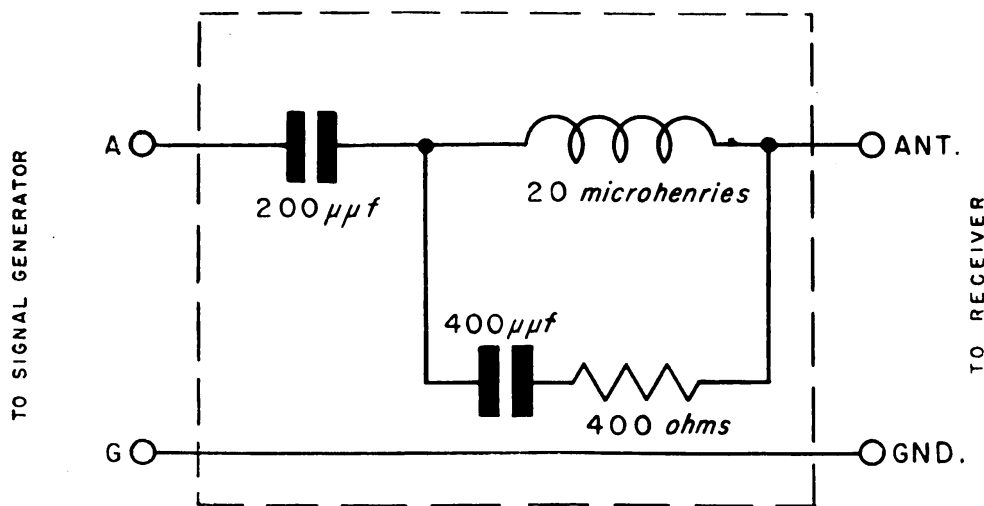
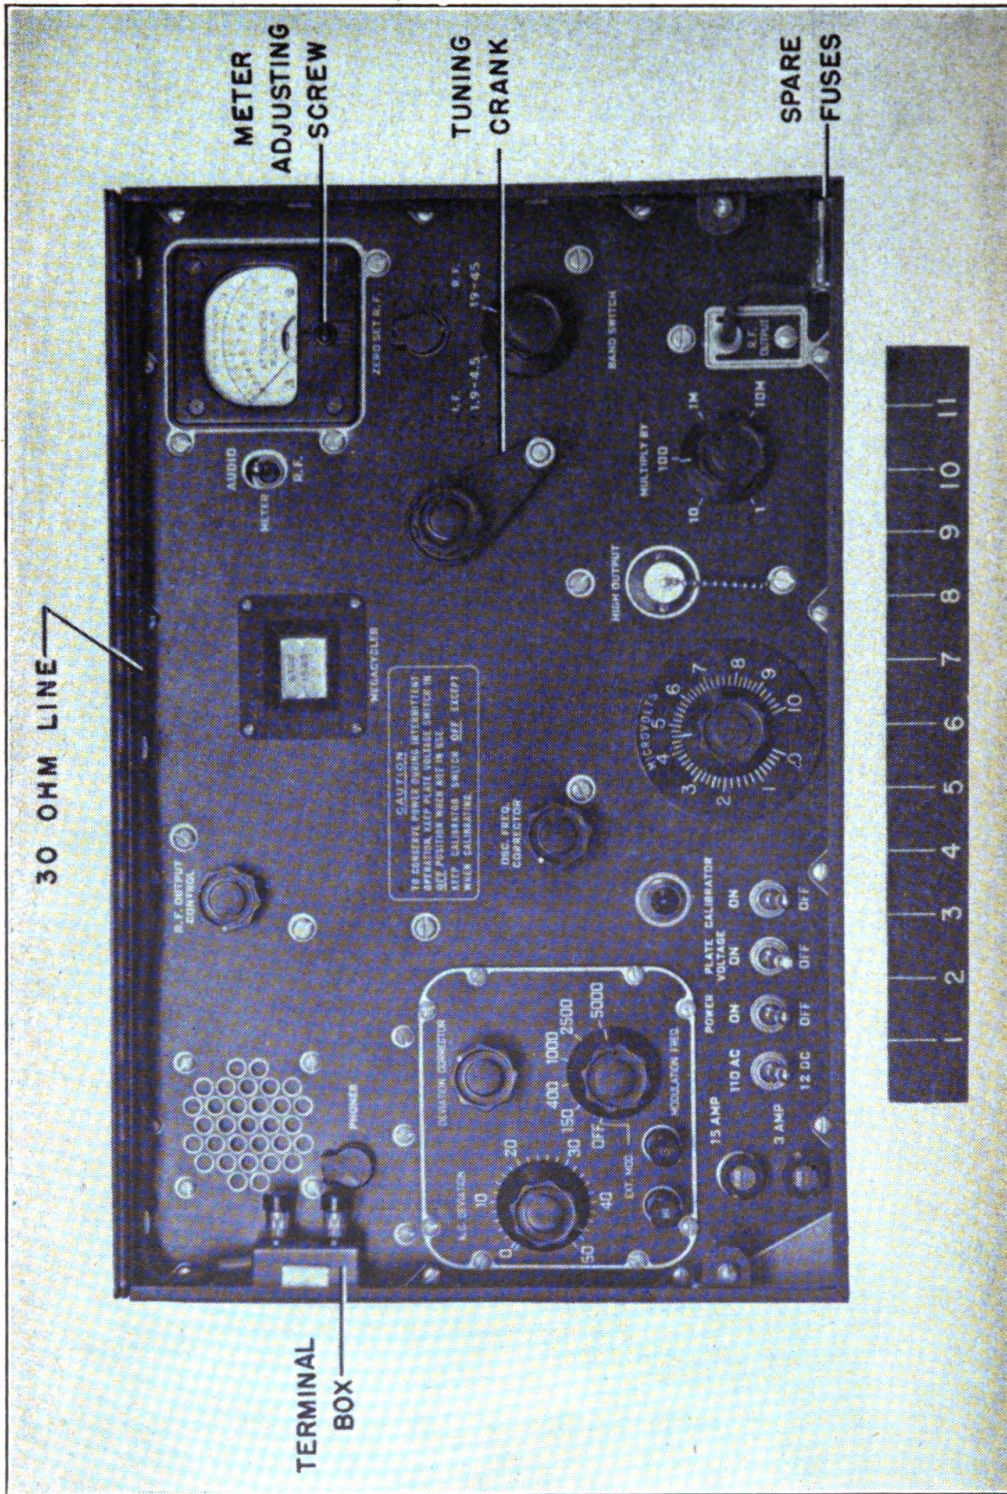

Figure 3—RMA Standard Phantom Antenna
Figure 4—Signal Generator I-208, front view
(1) See that the POWER switch is at OFF. Throw power selector switch to correspond with available power source (12 DC or 115 AC).
(2) Check the meter reading. The pointer must be at 0. If it does not read 0, very carefully adjust the meter adjusting screw (figure 4) so that the meter needle is at zero.
(3) After you have installed the signal generator as outlined in paragraph 5a, b, or c, and made the adjustments outlined in paragraphs 6a(1) and 6a(2), throw the POWER, PLATE VOLTAGE, and CALIBRATOR switches to ON and allow the signal generator to warm up for about 15 minutes.
(4) While waiting for the signal generator to warm up, determine from the radio receiver alignment procedure the type of coupling (phantom antenna) required between the signal generator and the radio receiver. A network as shown in figure 3 may be used if a specific phantom antenna is not recommended in the receiver alignment procedure.
(5) Remove the 30-ohm line from the clips around the edge of the front panel of the signal generator (figure 4).
(6) Make connections between the terminals of the 30-ohm line and the radio receiver according to the instructions in the alignment procedure for the radio receiver. Terminal G is ground. In some installations, if leakage is encountered, it may be necessary to connect the ground binding post of the receiver and the output terminal box of the signal generator directly to the receiver chassis with the shortest possible length of copper braid. The best grounding condition must
(1) Turn the R.F. OUTPUT CONTROL to the left as far as it will go.
(2) Throw the METER switch to R.F.
(3) The meter must now read 0. If it does not read 0, lift the spring cover over the ZERO SET R.F. control (figure 4) and adjust the screw under the cover with a small screwdriver until the reading is zero.
(4) Turn the R.F. OUTPUT CONTROL to the right until the meter pointer is set to the red line (1.0) on the scale. The pointer will move as the signal generator is tuned over the frequency range. Always set it back to the red line on the meter scale by adjusting the R.F. OUTPUT CONTROL when the desired frequency has been reached.
a. The audio oscillator unit is on the left side of the front panel of the signal generator (figure 4). It contains the MODULATION FREQ. selector switch, the K.C. DEVIATION control, the DEVIATION CORRECTOR control, and the EXT. MOD. (external modulation) terminals.